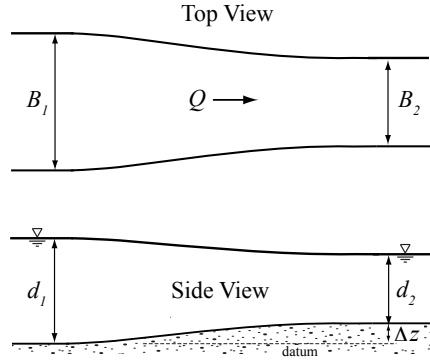

Figure 3: Top and side views of a contracting flume used for flow measurements.
4. A contracting flume (Fig. 3) is used as a gauging station in a rectangular channel. By measuring the upstream and downstream flow depths ( $d_1$  and  $d_2$ ), the flowrate  $Q$  can be determined. Assume that there is no energy loss through the contraction, and that the velocity distribution is uniform over the depth and across the contraction ( $\alpha = 1$ ). Furthermore, you may assume that the incoming flow is subcritical.